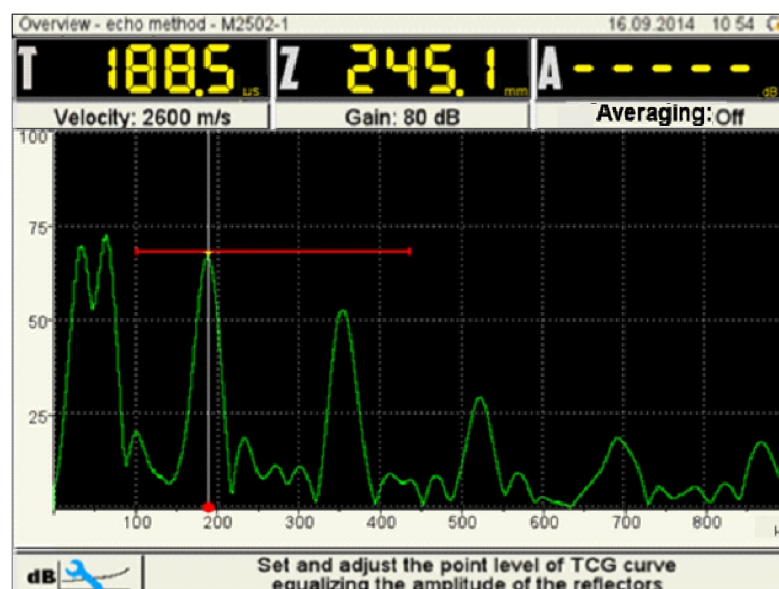

Figure 10: Maximum of the nearest reflector
- Find the signal maximum from the nearest reflector (Figure 10). Move the cursor to it and create a TGC point with the  key.